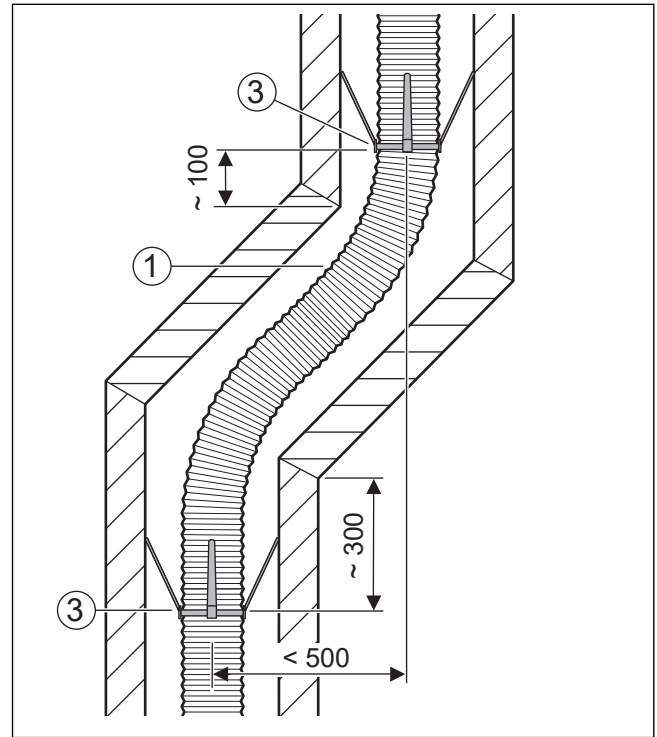
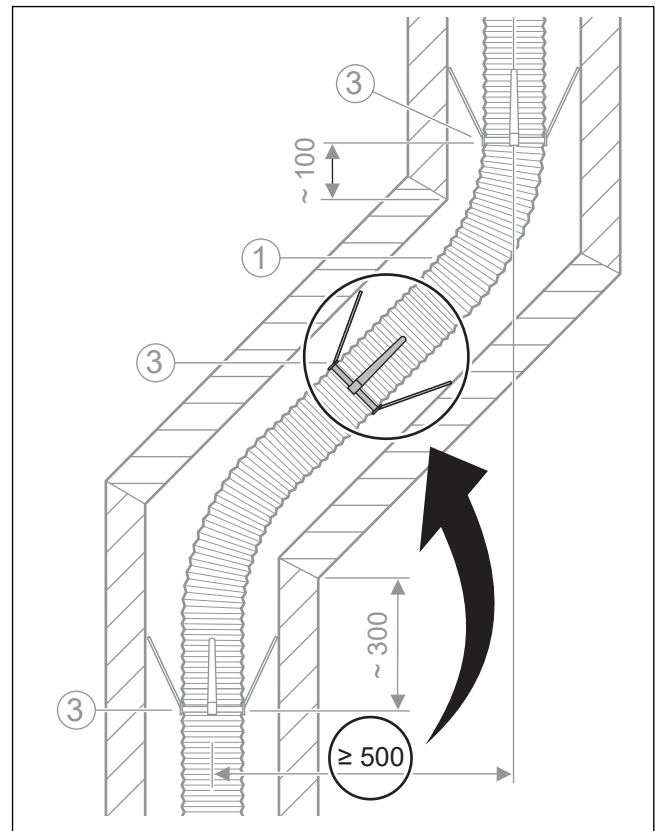

Fig. 14 Installation in slightly angled chimney
Fig. 15 Installation in angled chimney
3. Where the bend in the chimney is 500mm or less follow the advice in figure 14 or if the bend is greater than 500mm follow the advice in figure 15